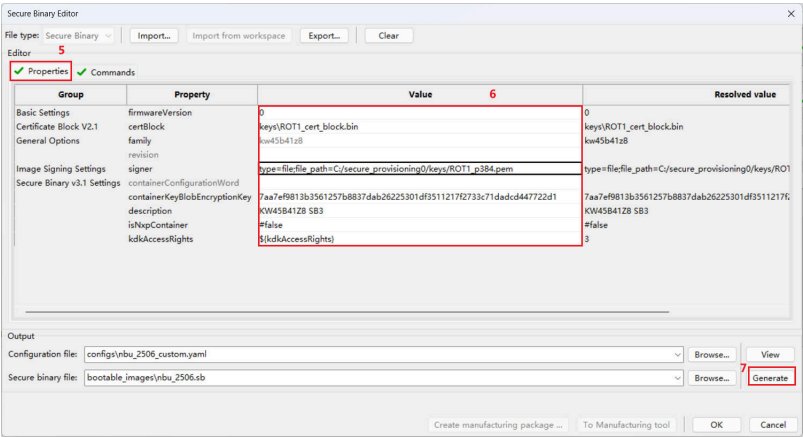

Figure 8. Add properties on Secure Binary Editor
- 5. Fill in the parameters as shown in Figure 8: